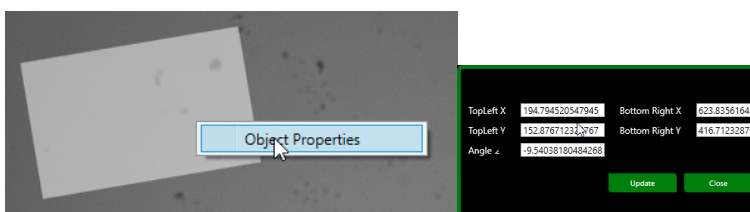

Figure 3-56 Object settings window
- 5.4. All object changes can also be made by clicking the right mouse button and clicking on Object Properties, see **Figure 3-56** below.